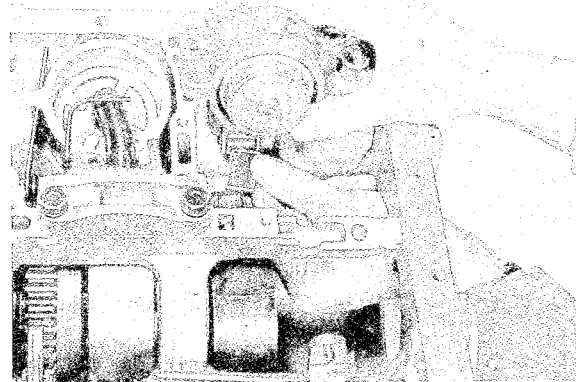

Fig. 4-100. Installation of front servo and strut
10. Place the front brake band in position, see Fig. 4-100. Stick the strut to the servo lever with vaseline. Fit the servo. The shorter bolt is fitted at the front. Make sure that the servo strut is correctly engaged with the slot in the brake band. The cam for self-adjustment is fitted later.